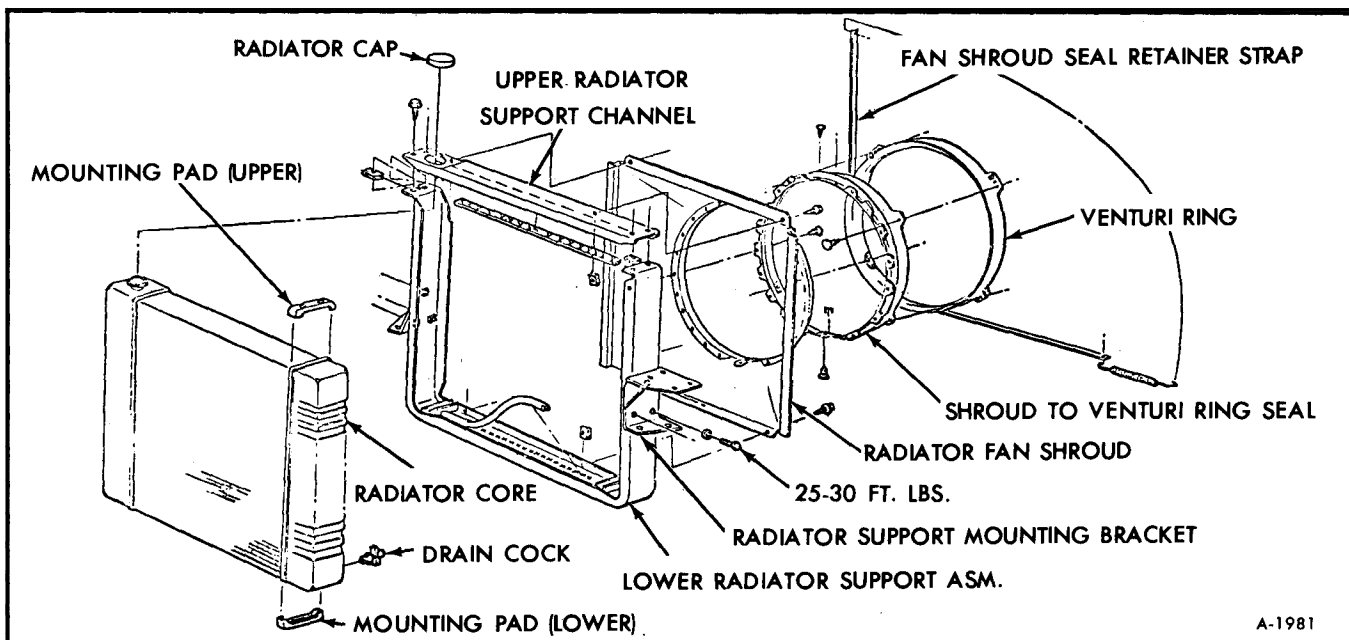

Figure 1—Radiator Assembly (Typical)
Refer to Figure 1 for mounting details of radiator support, radiator core, fan shroud and venturi ring.
1. Drain radiator by opening drain cock assembly at lower corner of radiator assembly (location of drain cock shown in figure 1).
7. Remove upper shroud to support bolts (2) and clips attaching seal and venturi ring.
9. Remove (2) lower shroud to support bolts & lower shroud.